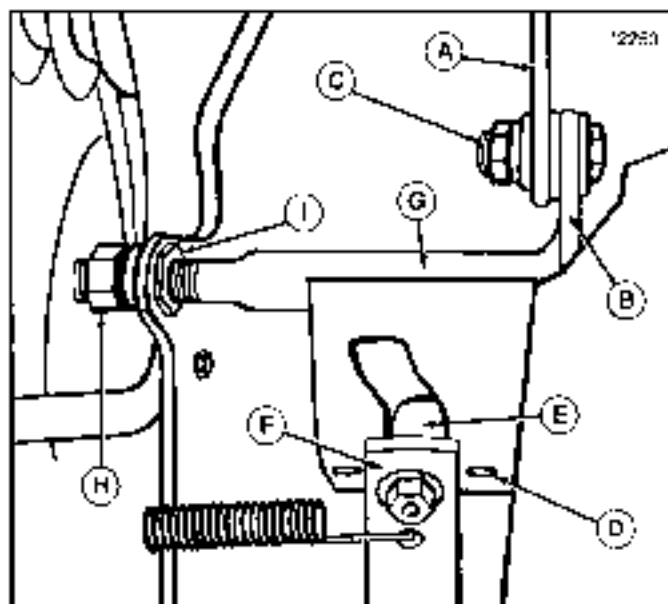

Figure 28. Hydrostatic Neutral Adjustment
2. Raise the seat deck and check if the pump control arm roller (E, figure 28) is exactly centered with the centering mark (D). If not, loosen bolt (C) and move the control cam (B) until centering mark (D) is centered on roller (E). Tighten the bolt (C).
4. Stop the engine, set parking brake, and raise seat deck. Loosen the jam nut (H) on end of cam pivot shaft (G). If tractor creep had been in reverse, turn adjusting nut (I) 1/8 to 1/4 turn clockwise when viewed from right side of tractor. If tractor creep had been forward, turn nut 1/8 to 1/4 turn counterclockwise. Lock jam nut, lower seat